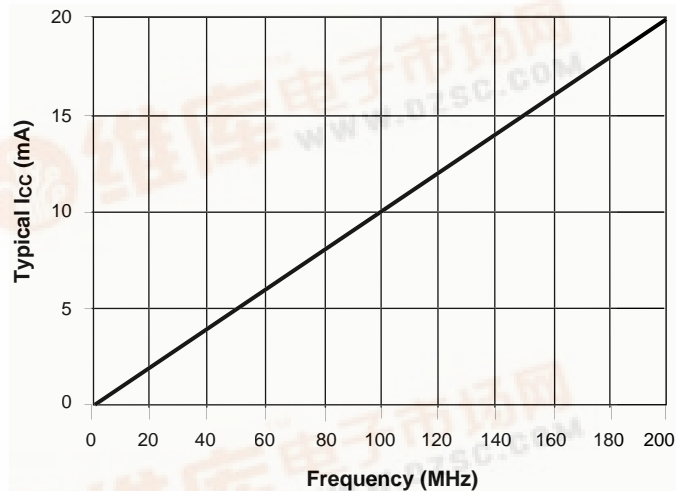

Figure 1: I_{CC} vs. Frequency at $V_{CC} = 3.3V, 25^{\circ}C$
Xilinx offers a TotalCMOS CPLD, both in process technology and design technique. Xilinx employs a cascade of CMOS gates to implement its sum of products instead of the traditional sense amp approach. This CMOS gate implementation allows Xilinx to offer CPLDs that are both high performance and low power, breaking the paradigm that to have low power, you must have low performance. Refer to Figure 1 and Table 1 showing the I_{CC} vs. Frequency of our XCR3032XL TotalCMOS CPLD (data taken with two resettable up/down, 16-bit counters at 3.3V, 25°C).
5. See Table 1, Figure 1 for typical values.